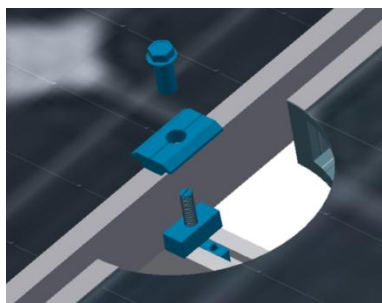

Fig. 17: Mid Clamp, Collar Nut and T Bolt
- Thread the 1/4" (7/16" socket head) collar nut onto the top of the T bolt as shown in **Fig. 17** below. After positioning the end clamp firmly against the PV panel frame, **tighten to 7.5 ft. lbs.**